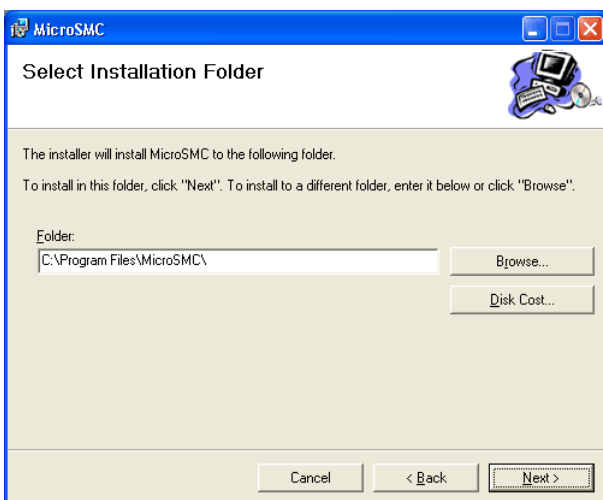

Figure 47. MicroSMC 2nd installation screen
- On the next screen (see Figure 47) choose installation folder and press "Next>" button.